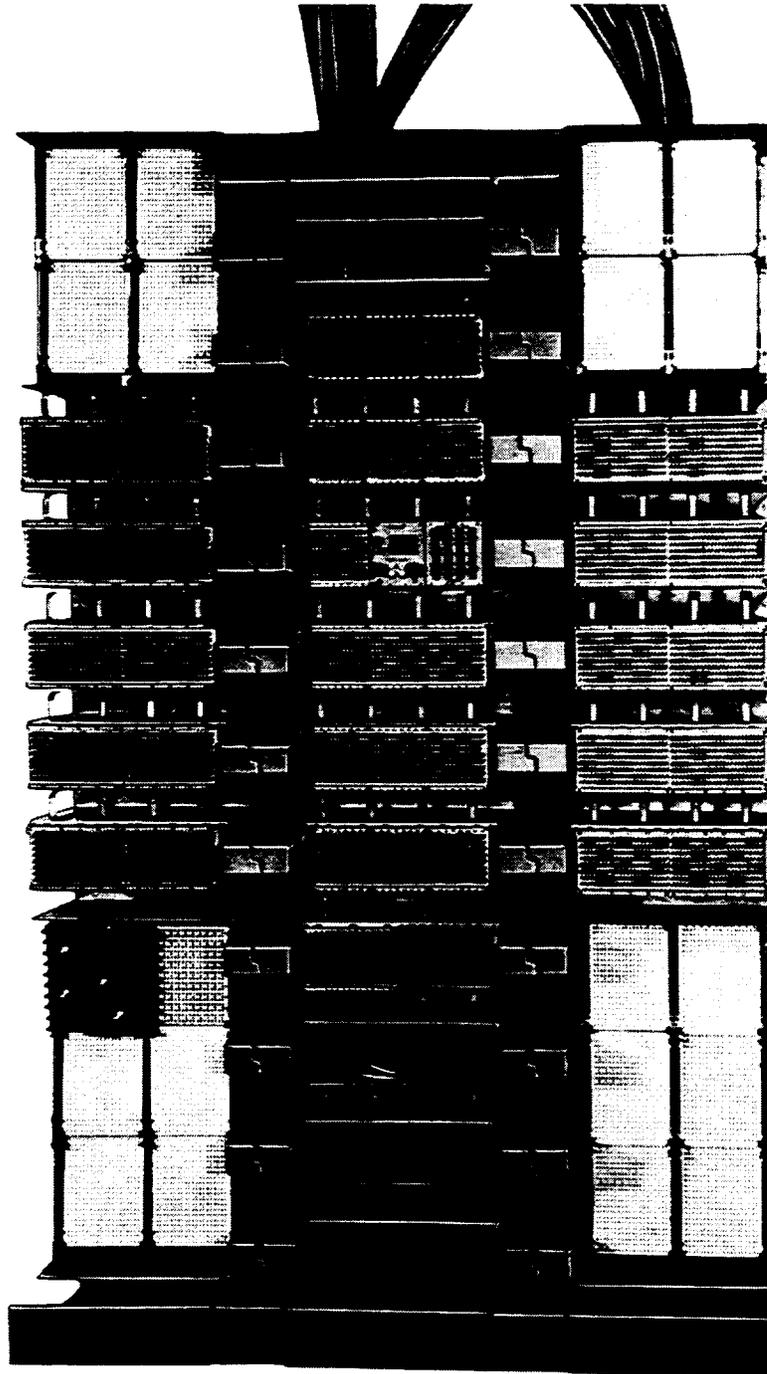

Figure 6—*COSMIC* II Mini Distributing Frame (3 Bays) (Upper Express Trough Not Shown)
3.14 The *COSMIC* Mini DF (Distributing Frame) is a single-sided, modular frame system that can terminate and cross-connect both outside plant cables (using 307-type connectors) and equipment cables [using 112-type connecting blocks, (Figure 6)]. Both